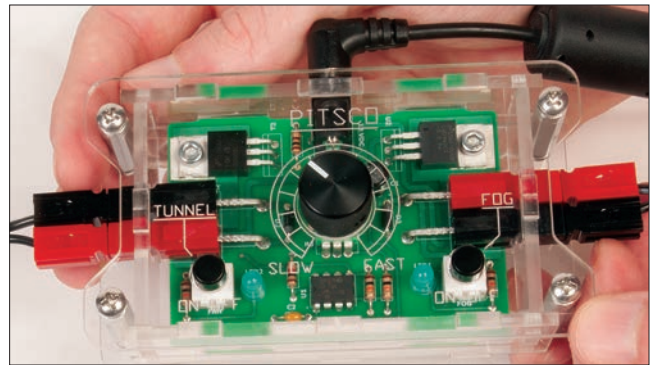

Figure 5
2. Plug both adapter cords into the control box in the corresponding color slots and run the wires to the FLO Tunnel and fog generator (Figure 5).